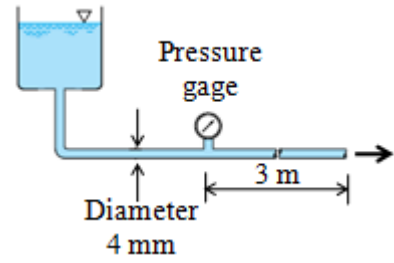

Fig Q3b
- Q3b. A simple flow system to be used for steady flow tests consists of a constant head tank connected to a length of 4 mm diameter tubing as shown in Fig Q3b. The liquid has a viscosity of 0.015 N-s/m^2 , a density of 1200 kg/m^3 , and discharges into the atmosphere with a mean velocity of 4 m/s . (i) The flow is fully developed in the last 3 m of the tube. What is the pressure at the pressure gage? (ii) What is the magnitude of the wall shearing stress, (τ) , in the fully developed region? [4M]